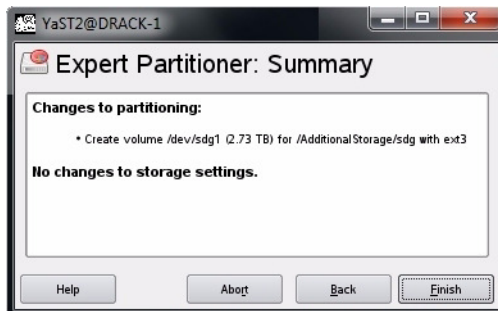

Figure 3-30 YaST2 – Click Finish
9. Click **Finish** (Figure 3-30).